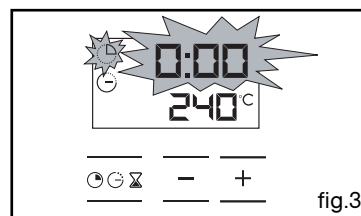

fig.3
Example: 30 mins cooking time (fig.3).
- the cooking time indicator and 0:00 both flash (fig.3),